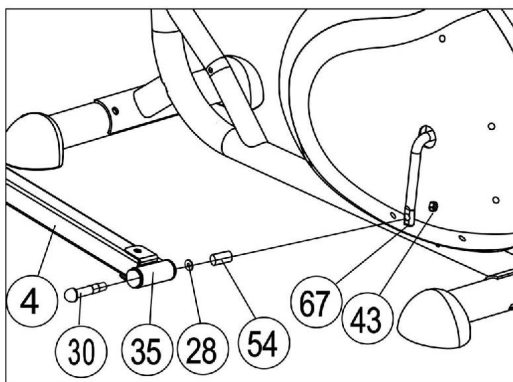

Figure 7
Insert the left Pedal support tube (4) through the Rear U-shape bracket (35), put a Wave washer (28) and Pedal axis bushing (54) into the Left pedal axis (30). And then attach the pedal axis (30) to the crank (67) and tighten them. Do the same steps as above to assemble the right Pedal support tube (4) to the right pedal axis (30). (Refer figure 7)